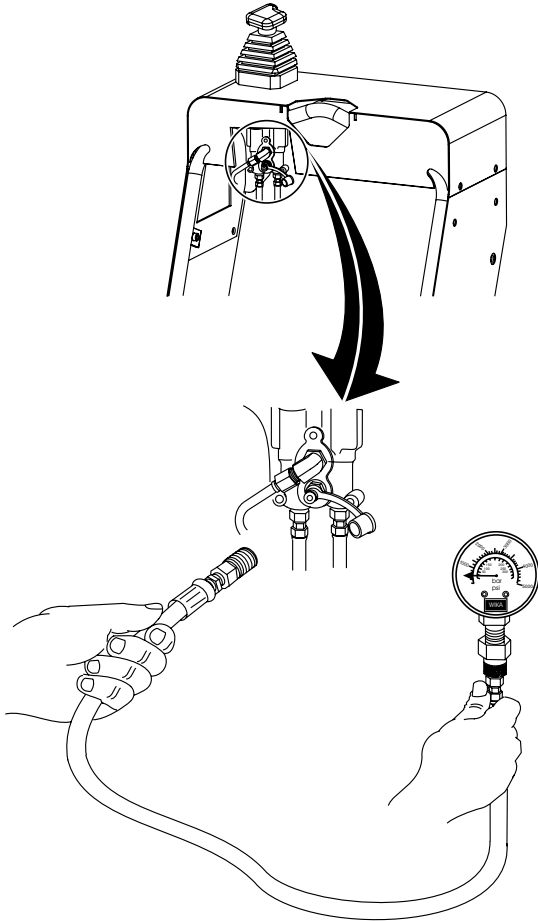

Figure 48. Steering Pressure Check
1. Remove the Left Side Access Cover and insert the test pressure gauge (300 to 600 PSI) as shown in Figure 48 into the left steering valve's diagnostic quick coupler.